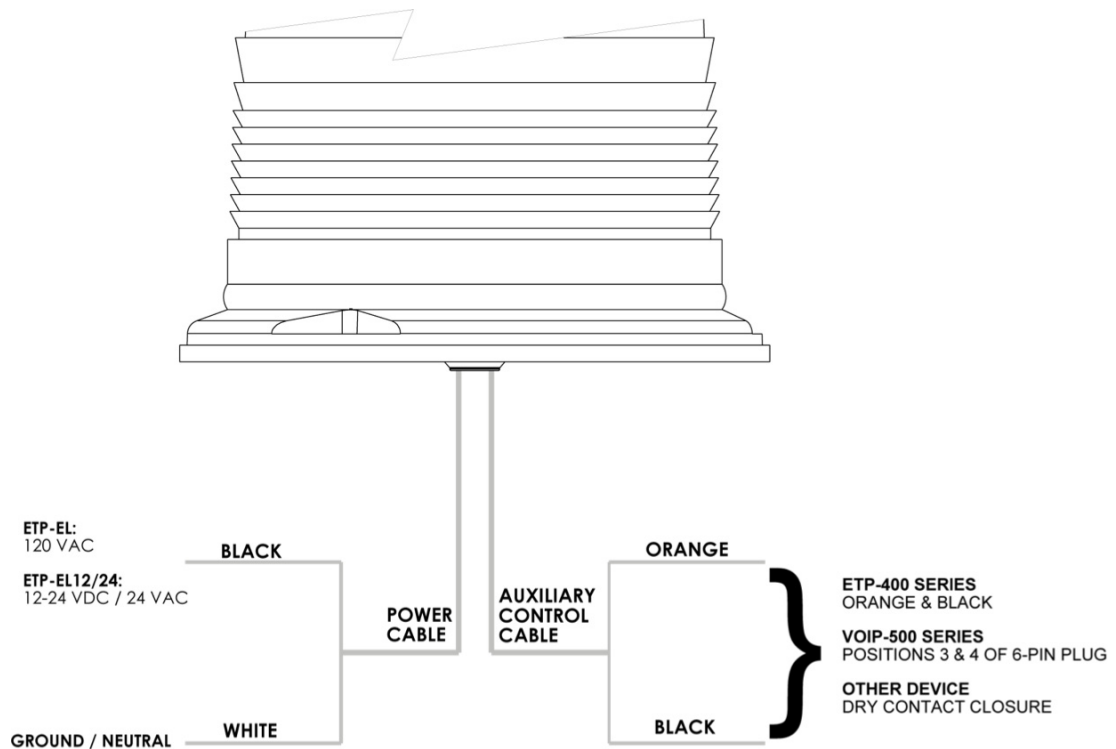

Figure 1: Electrical connections to the ETP-EL and ETP-EL12/24 Blue Light
6. The 120VAC model **ETP-EL** Blue Light can be connected to the 120VAC output voltage of the power source. If using the **ETP-EL12/24** Blue Light, connect the power cable to either the 12-24VDC or the 24VAC output voltage of the power source (shown in **Figure 1**).